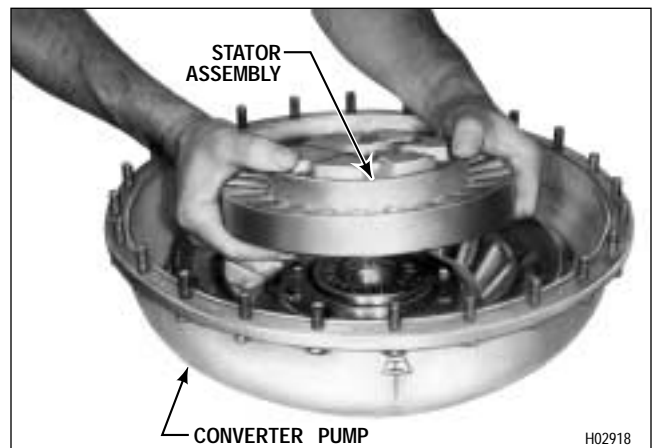

Figure 6-7. Removing (or Installing) Torque Converter Stator Assembly (AT 543)
(6) Lift off the stator assembly, using care that the freewheel roller race does not fall out (Figure 6-7).
(8) Grasp the stator and cam assembly as shown in Figure 6-7 and install it onto the converter pump hub. Hold the roller race firmly to retain it in position.